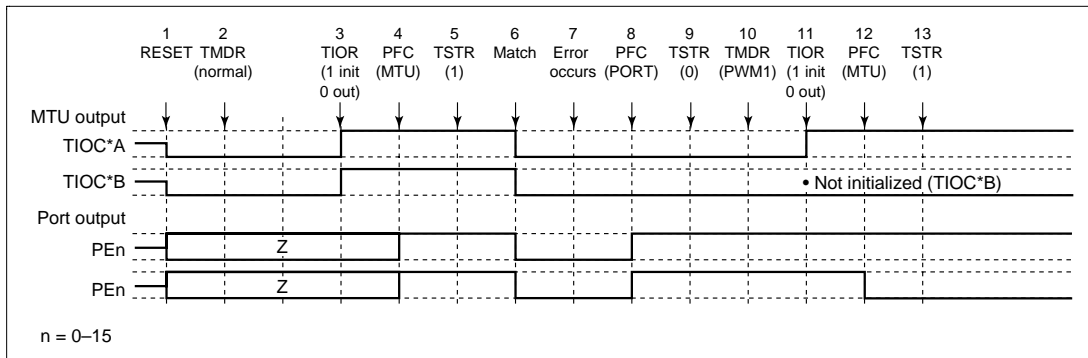

Figure 10.62 Error Occurrence in Normal Mode, Recovery in PWM Mode 1
(2) Operation when Error Occurs during Normal Mode Operation, and Operation is Restarted in PWM Mode 1: Figure 10.62 shows an explanatory diagram of the case where an error occurs in normal mode and operation is restarted in PWM mode 1 after re-setting.